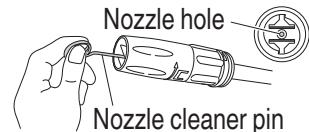

Fig. 26
1. Inspecting the washer and hoses (Fig. 26)